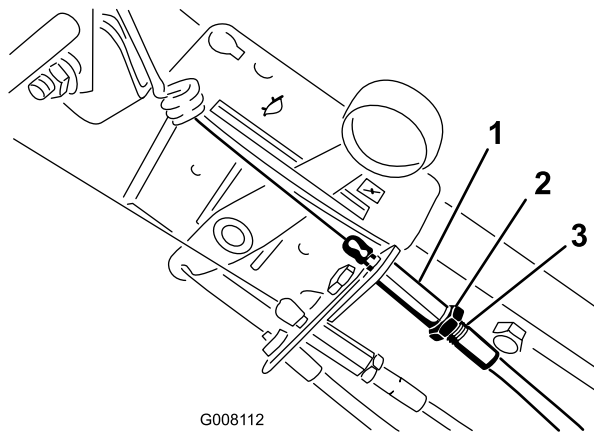

Figure 30
4. Reset the cable adjuster on the handle so that 1/4 inch (6 mm) of the threads show, then tighten the nut (Figure 30).
to adjust the cable adjuster to achieve this value (Figure 30).